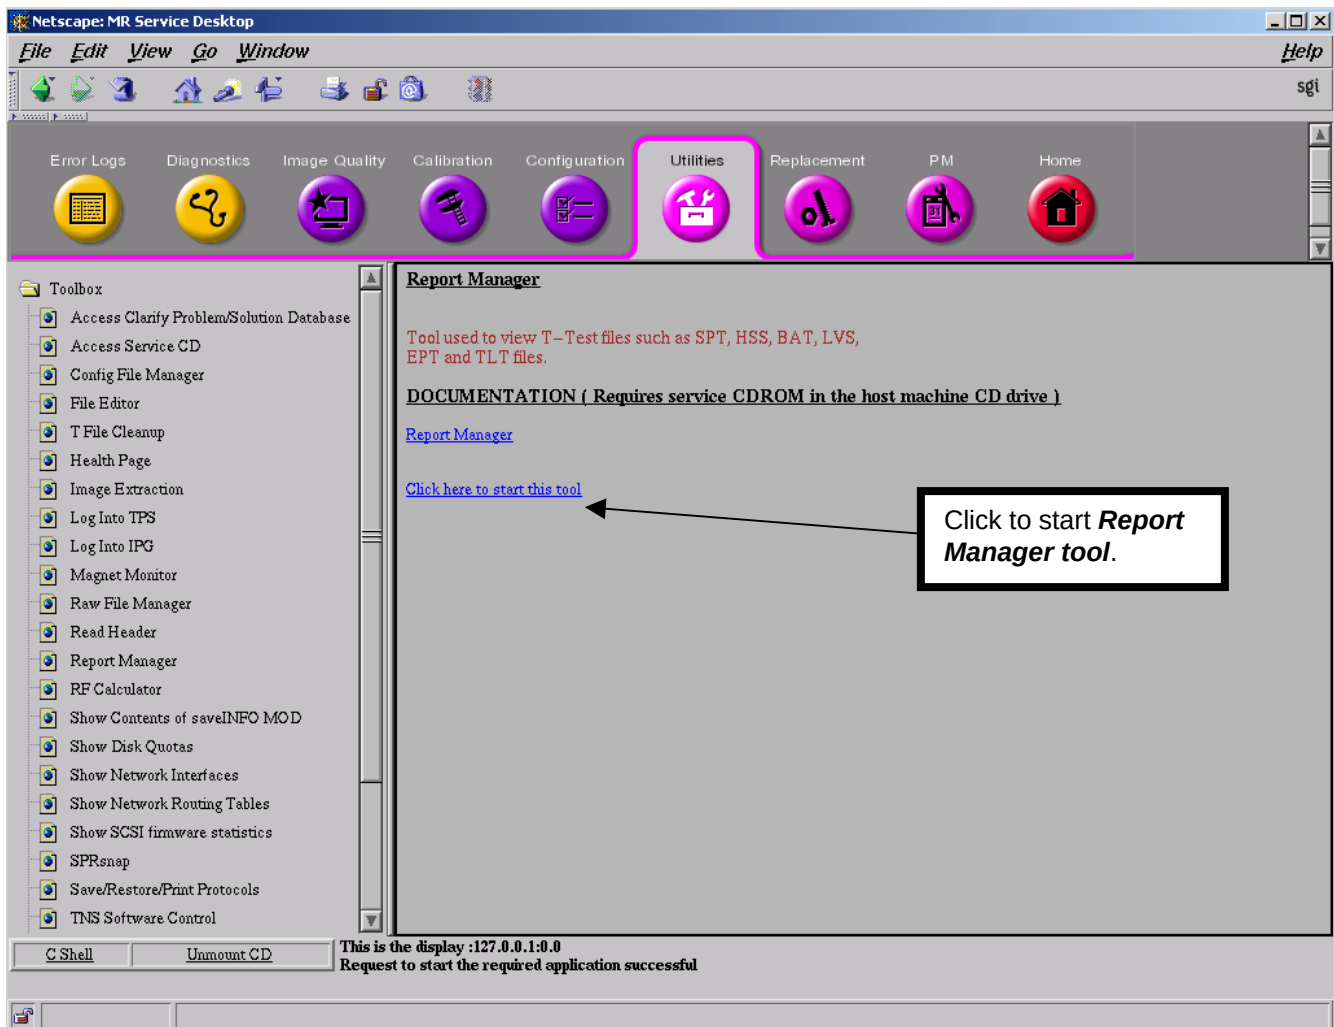

Figure 5
9. To launch the Report Manager tool, click the link: "Click here to start this tool" located on the right side of the Report Manager window as shown in Figure 5.